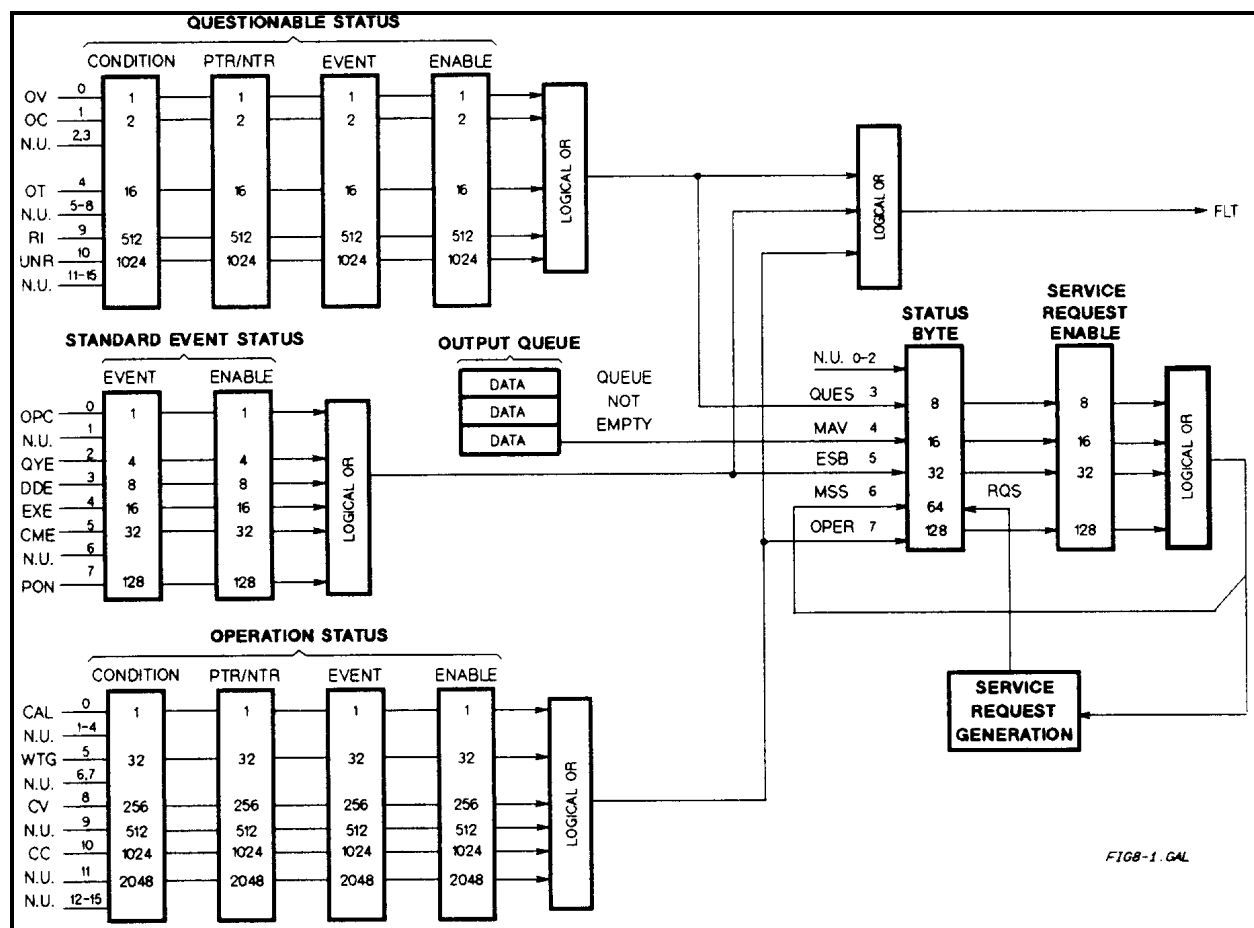

Figure 8-1. Agilent SAS Status Model
Figure 8-1 shows the status register structure of the Agilent SAS. The Standard Event, Status Byte, and Service Request Enable registers and the Output Queue perform standard GPIB functions as defined in the *IEEE 488.2 Standard Digital Interface* for Programmable Instrumentation. The Operation Status and Questionable Status registers implement status functions specific to the Agilent SAS. Table 8-2 and Figure 8-1 show the bit configuration of each status register.
The Questionable Status registers record signals that indicate abnormal operation of the Agilent SAS. As shown in Figure 8-1, the group consists of the same type of registers as the Status Operation group. The outputs of the Questionable Status group are logically-ORed into the QUES(tionable) summary bit (3) of the Status Byte register.
This group consists of an Event register and an Enable register that are programmed by common commands. The Standard Event Status Event register latches events relating to interface communication status (see Figure 8-1). It is a read-only register that is cleared when read.
This register summarizes the information from all other status groups as defined in the "IEEE 488.2 Standard Digital Interface for Programmable Instrumentation" standard. The bit configuration is shown in Figure 8-1 and Table 8-2. The register can be read either by a serial poll or by ***STB?**. Both methods return the same data, except for bit 6. Sending ***STB?** returns MSS in bit 6, while polling the register returns **RQS** in bit 6.
This example assumes you want a service request generated whenever the Agilent SAS switches to the CC (constant current) mode. From Figure 8-1, note that the required path is for a condition at bit 10 (CC) of the Operation Status register to set bit 6 (RQS) of the Status Byte register. The required register programming is shown in Table 8-5.
Whenever a fault is detected in the Agilent SAS, it is capable of generating a FLT signal at the digital port (see appendix C - Digital Port Functions). The source for the DFI signal can be any Questionable, Operation, or Standard Event status event (see Figure 8-1).